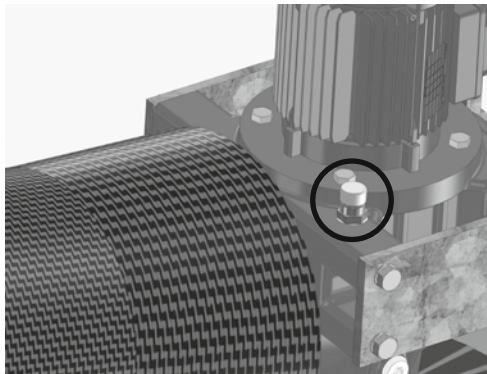
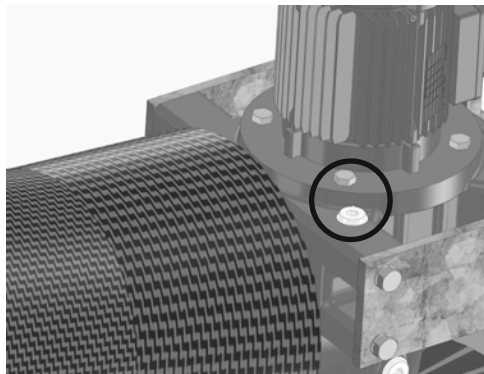

Figure 4: Correct!
Figure 5: Wrong!
- gear ventilating screw included, which must be fitted without fail before the first activation!** (see Fig. 4)
After wall mounting and before its first activation, the locking screw which is already fitted (Fig. 5) on the gears must be replaced with the enclosed ventilation screw (Fig. 4). Failure to do this can destroy the gears!